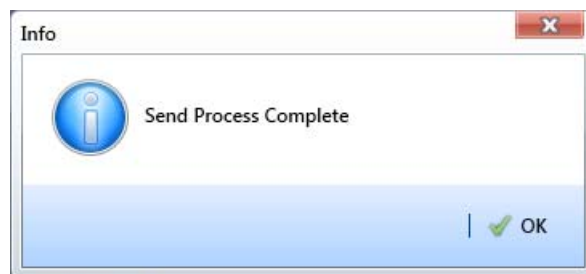

Figure 13-16. Send Process Complete
- 12 Click  **Send**. When a message displays confirming the send process is complete, click  **OK** to close the message (Figure 13-16).